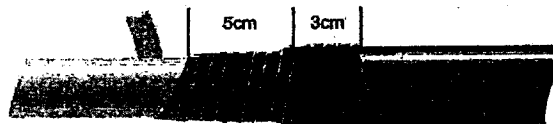

Figure 29.
9. Over wrap back towards the Crimp end of the cable, again stretching the tape and with 50% overlap, leaving 5cm covering the Outer Copper Screen Wires and White XLPE Insulation and 3cm covering the Black PVC Outer Sheath. This should use approx another 50cm of the tape: Again, do not cut the tape. (Figure 29)